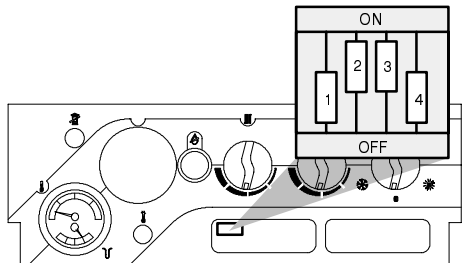

fig. 5.3
- 9 set correctly the dip-switch "2" (fig. 5.3) in accordance with the following table referring to the colour of the gas modulating cartridge.